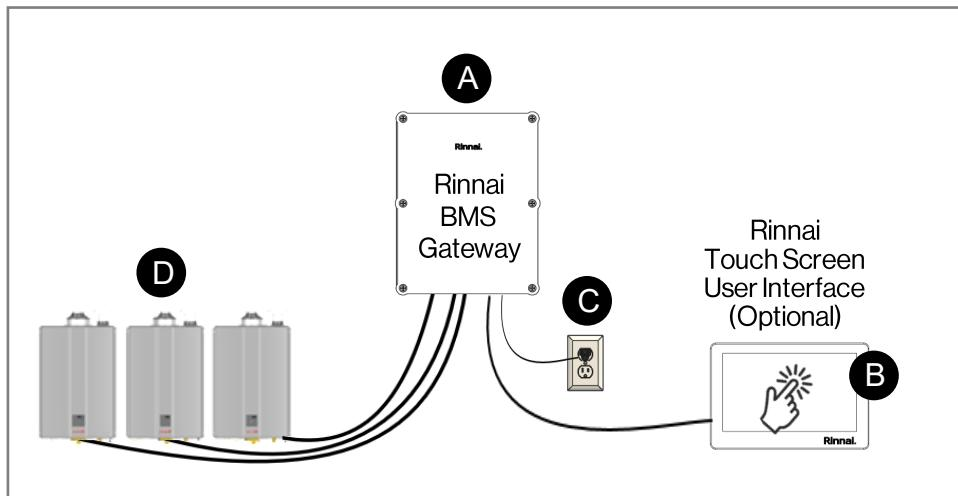

Fig 15. Main Components of BMS Gateway System
- Mount the BMS Gateway to the wall (see “A” in Fig 15).
- Mount the Rinnai Touch Screen User Interface to the wall (If applicable to your configuration) (see “B” in Fig 15).
- Connect power to the BMS Gateway (see “C” in Fig 15).
- Connect the BMS Gateway to the Rinnai Tankless Water Heaters in the system (see “D” in Fig 15).